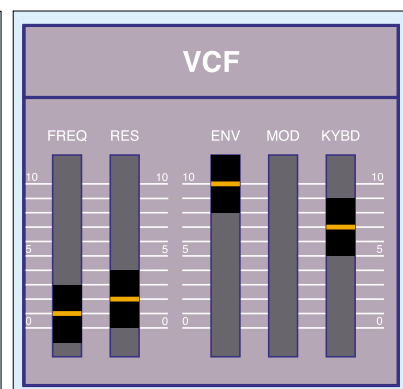

Figure 8: The VCF settings.
- open a great deal during the Attack phase of the envelope. This means that the Freq slider in the VCF section must be close to zero, and the Env fader must be at or near its maximum. Furthermore, as you should know from the theory explained two months ago, there must be just a touch of resonance to create the correct harmonic profile, and the cutoff frequency must track the keyboard at a little less than 100 percent. If I ignore the Mod fader, this allows me to define the VCF section as shown back in Figure 8.